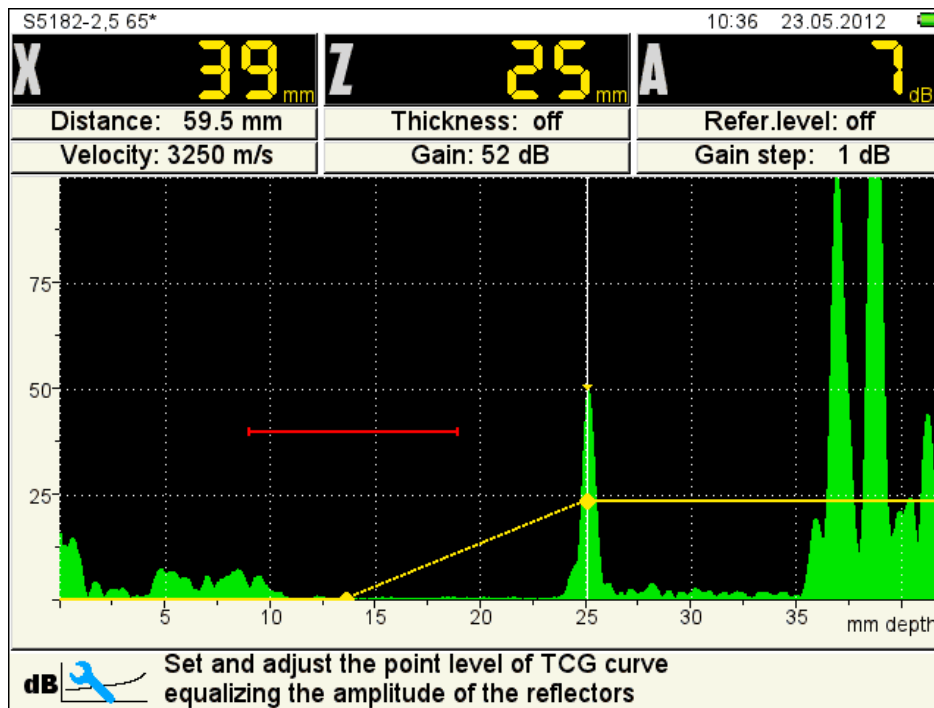

Figure 28
Screen view in TCG parameters setting is shown on figure 28.
- Repeat node creation procedure for a distant reflector. (figure 28).